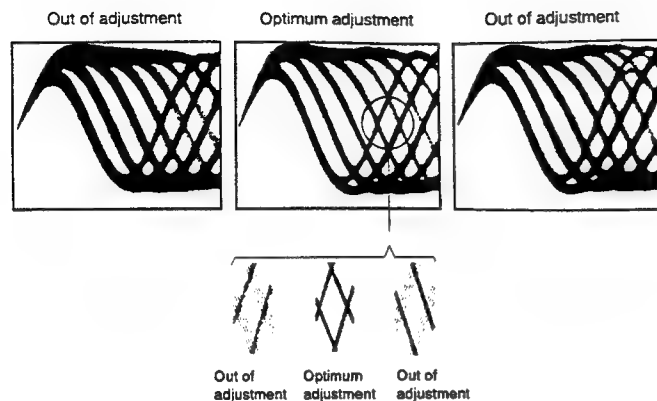

Figure 3 Eye Pattern
- Next, adjust the tangential tilt adjustment screw with the hexagon wrench GKG1002 so that the eye pattern (the diamond shape at the center of the RF signal) can be seen the most clearly (Figure 3).